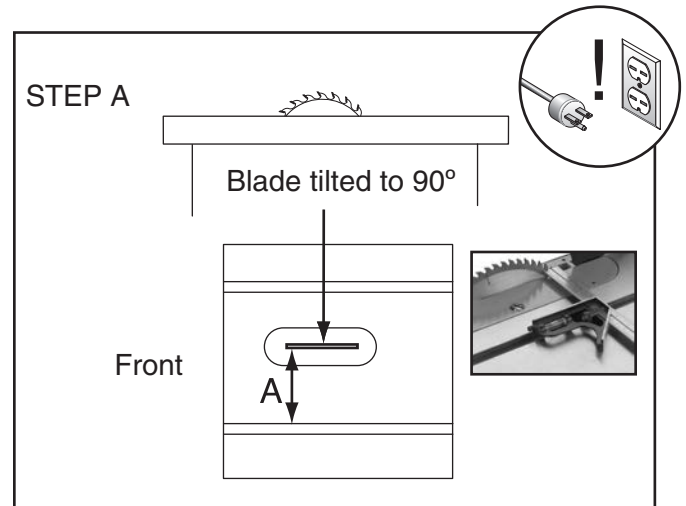

Figure 111. Measuring distance from miter slot to carbide tip of blade.
3. Measure from miter slot to a carbide tip on blade, as shown in **Figure 111**.